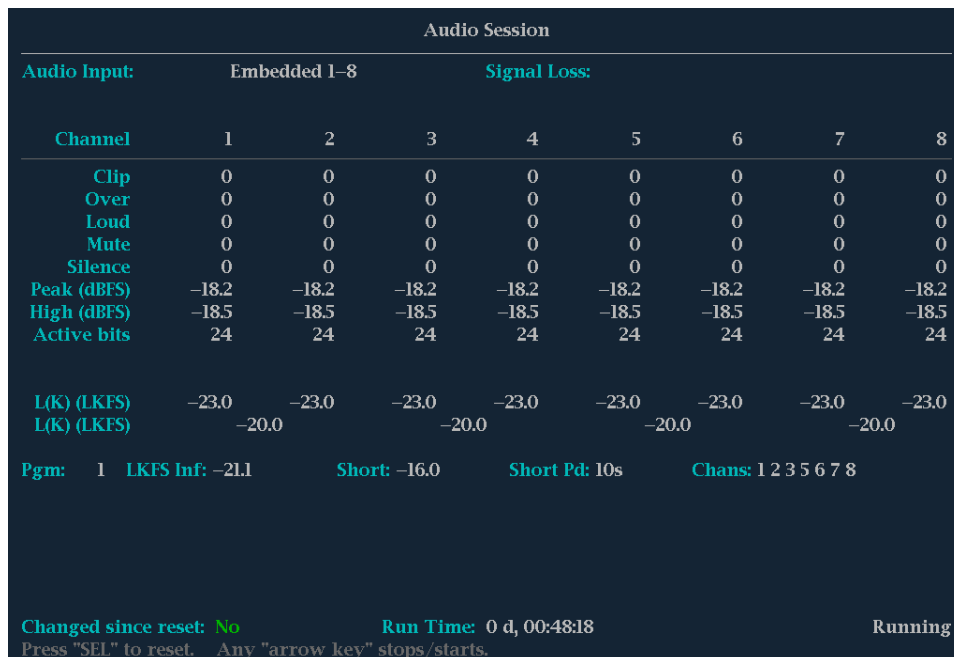

Figure 33: Audio Session display
**Audio Session** With Option AUD, you can access the Audio Session display, which contains several performance parameters that you can display to see an overview of the audio input signal. This instrument maintains a running audio status session. (See Figure 33.)